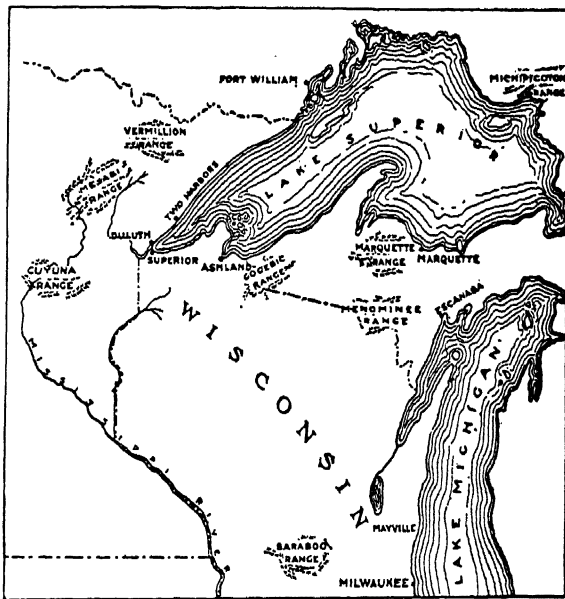
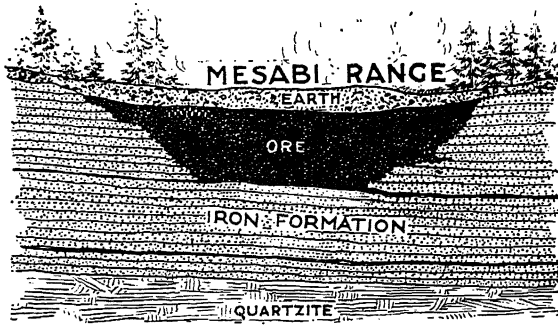

Fig. 257. Map showing the location of important iron mines in the Lake Superior region
Fig. 258. Section of the Mesabi range in Minnesota showing iron-ore deposits near the earth's surface
**Iron Mines of the United States.** The greatest iron-ore deposits in the world are in the Lake Superior region of the United States (see Fig. 257). The mines in this section supply nearly three fourths of the ore used in the United States and about one half of that used in the world. Here the iron ore in many mines is on top of the ground (see Fig. 258). This is a great advantage in obtaining the ore. In many cases it is only necessary to scoop up the ore with large steam shovels and dump it into waiting railroad cars. This makes the cheapest form of mining.